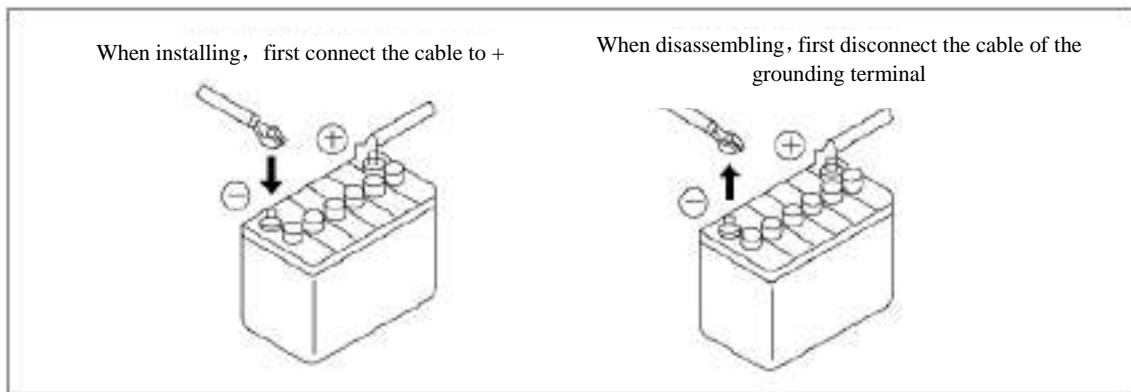

Figure 1-37 Precautions for removing and installing batteries
d) The battery should be removed as reverse sequence as installation, viz. to remove the battery, start with removing the ground side (negative (-) terminal) (see Figure 1-37).